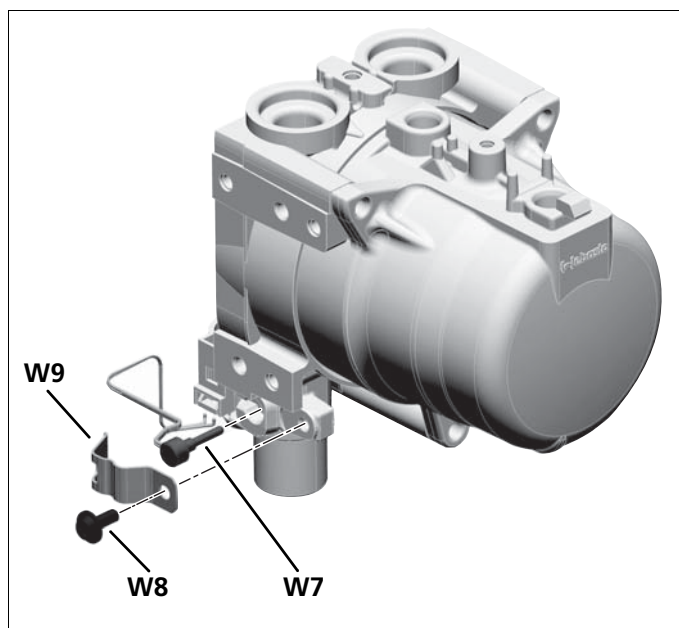

Fig. 922 Removing exhaust temperature sensor
1. Mount exhaust temperature sensor (W7, Fig. 922) in hole on exhaust pipe of heat exchanger.
2. Lay cable (W10) in groove on exhaust pipe and fasten retaining spring (W9) with screw (W8, Fig. 922). Tightening torque 4.0 ± 0.4 Nm.